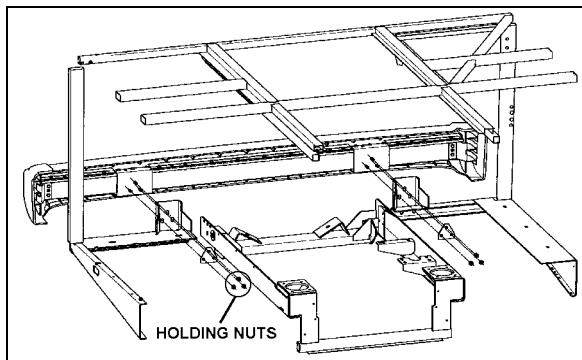

FIGURE 21: REAR BUMPER ASSEMBLY 18501
1. Remove 6 nuts (3 on each side) holding bumper assembly to vehicle and remove bumper (Figure 21).